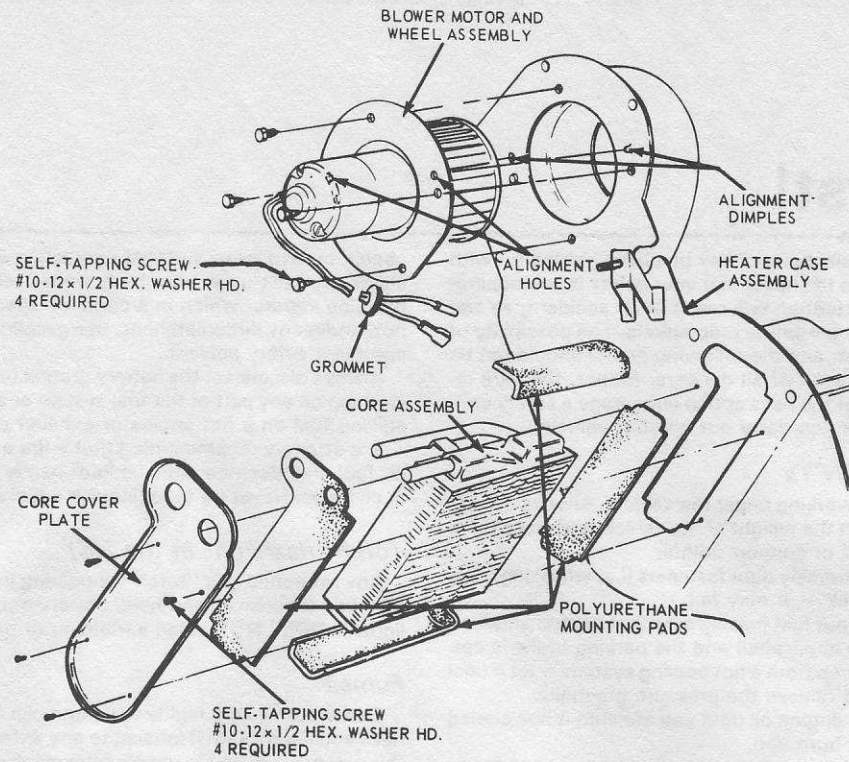

Fig. 12.33 Heater blower motor and core removal 1971/3 models (Sec 40)
- 3 Installation is the reverse of the removal procedure (on later models match the alignment holes, see Fig. 12.33).
- c) **1971-73 models** – remove the heater core cover and pad and slide the core out of the case (see Fig. 12.33)